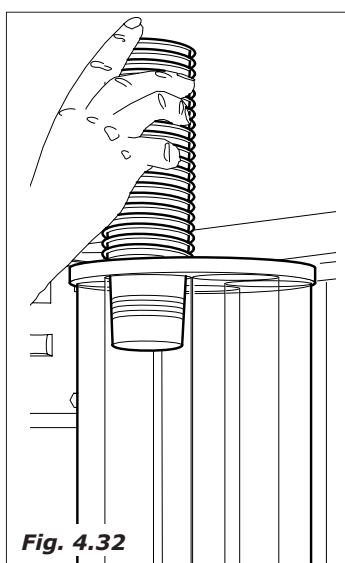

Fig. 4.32
- Check that the cup column is not aligned with the distribution outlet, then fill all the columns proceeding in an anti-clockwise sense, opposite sense (when the column is aligned with the distribution outlet), close the door and switch on the machine so that the cup column rotates and automatically places itself in a position in which it is not aligned with the inlet and then proceed to fill (Fig.4.32)